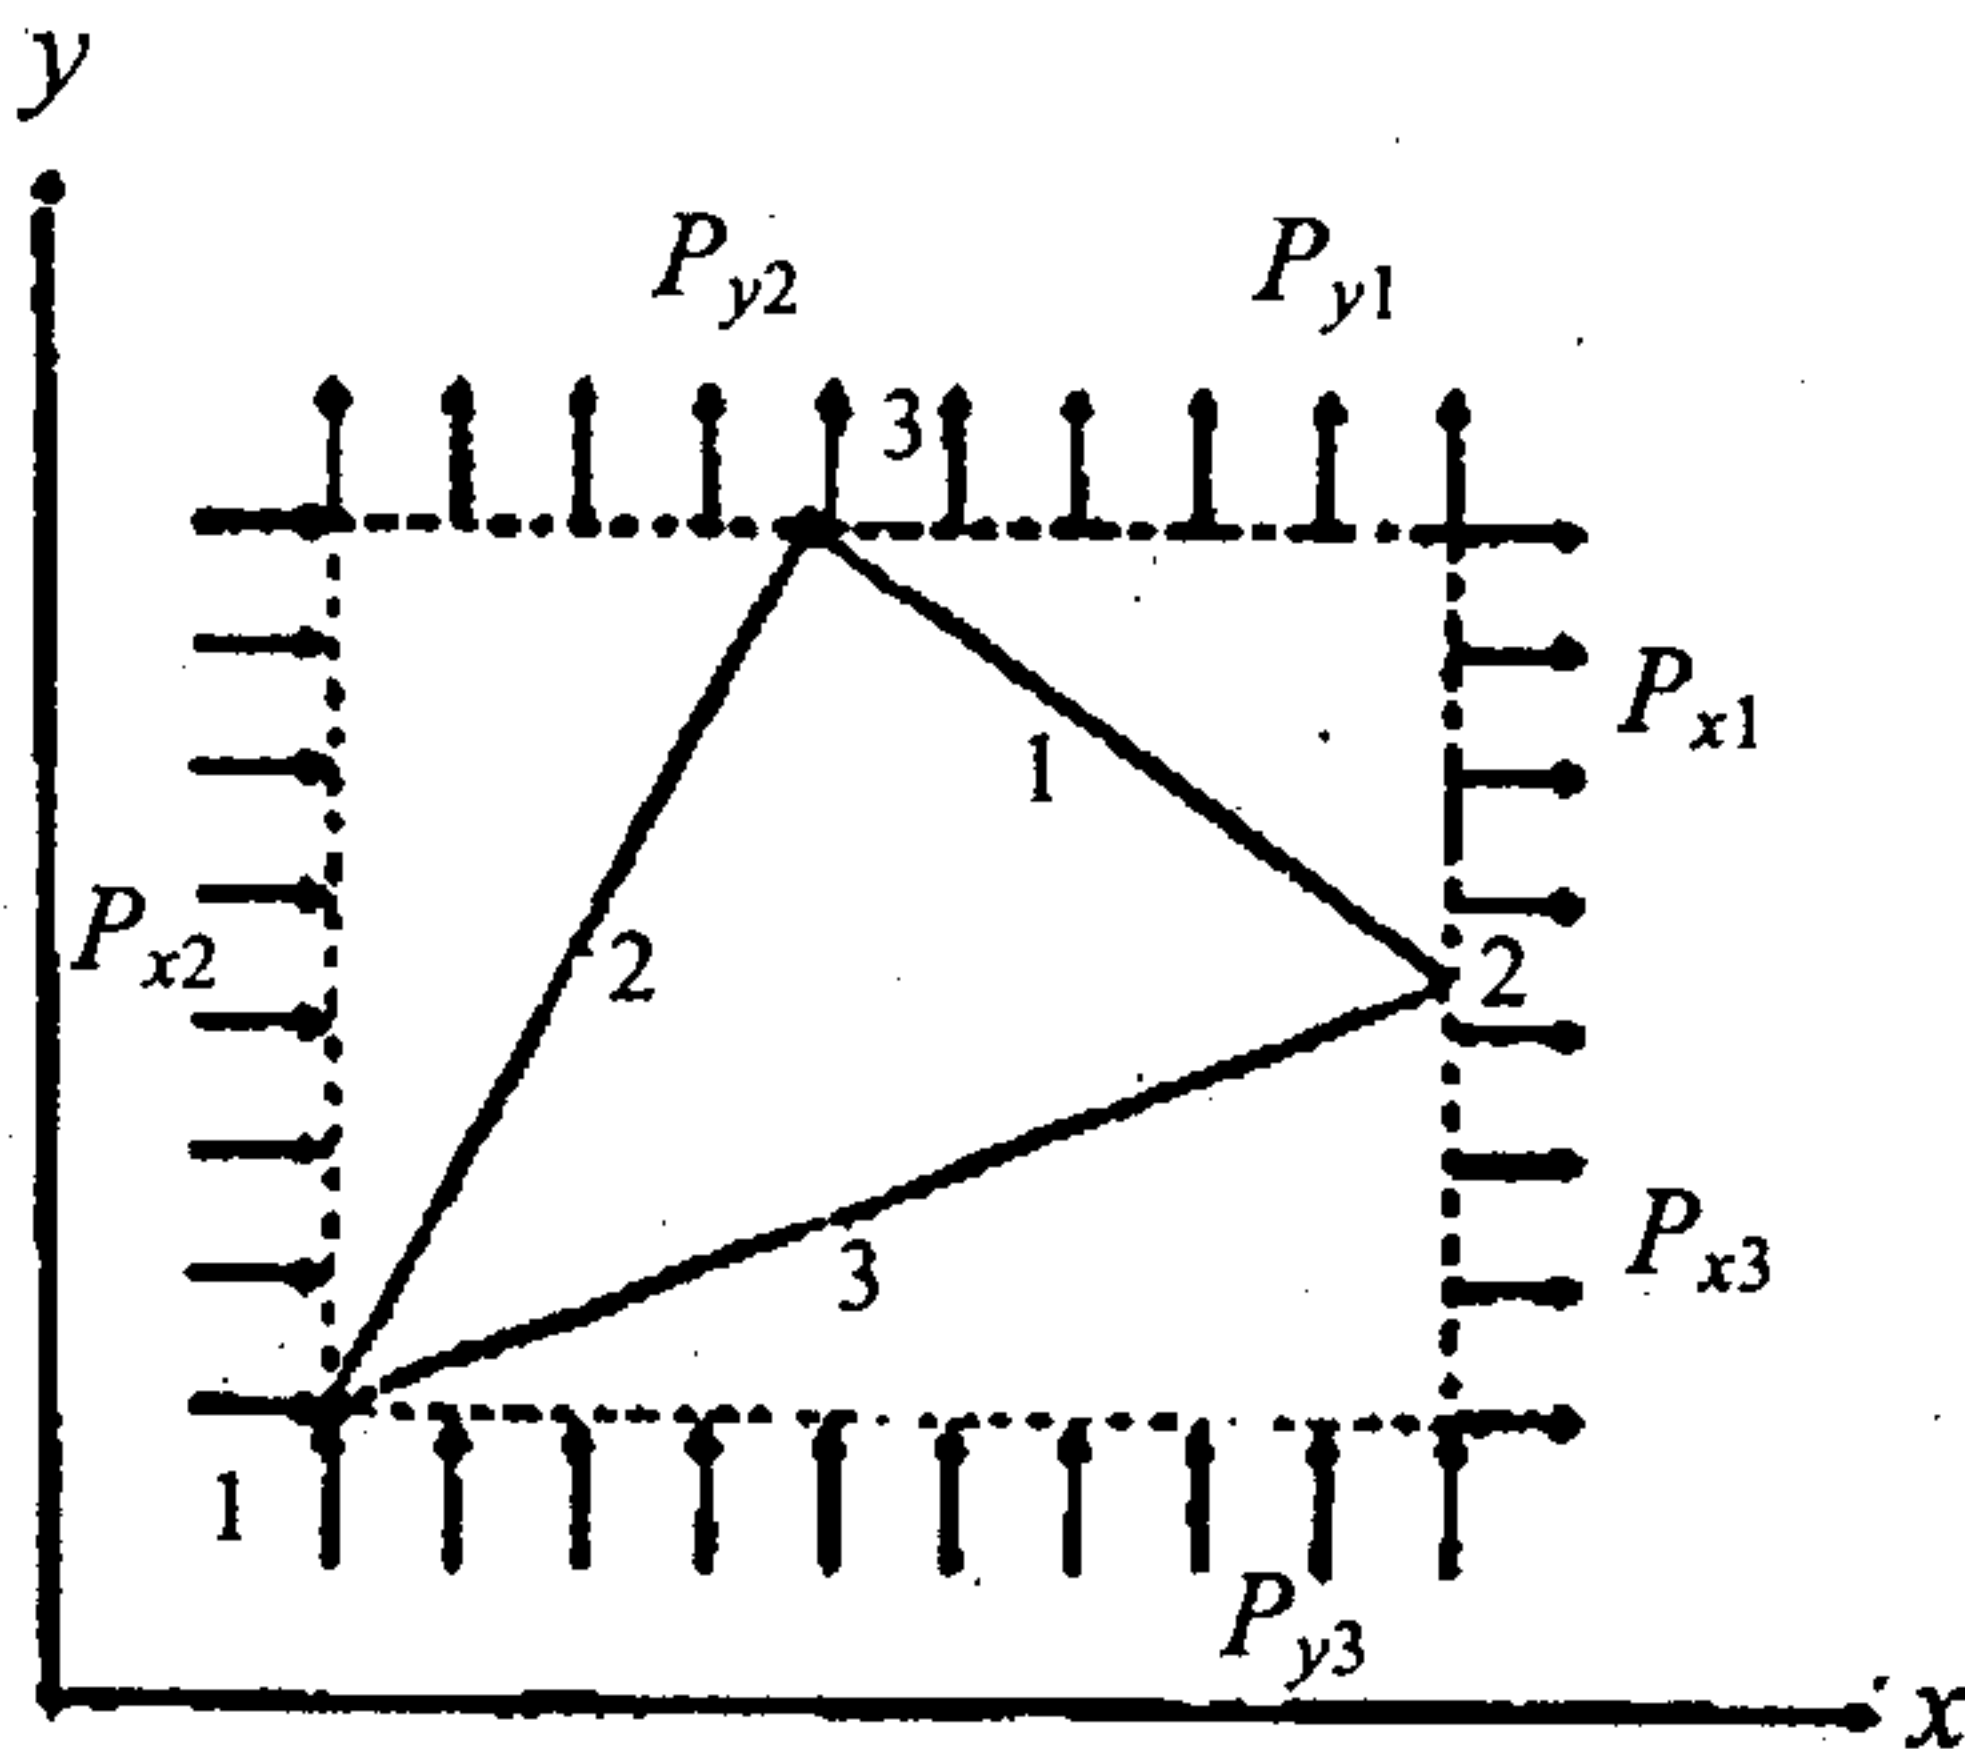

Fig. 13 (b).
- (b) (i) Derive the expression for nodal vector in a CST element subjected to pressures  $P_{x1}, P_{y1}$  on side 1,  $P_{x2}, P_{y2}$  on side 2 and  $P_{x3}, P_{y3}$  on side 3 as shown in Fig. 13 (b). (10)